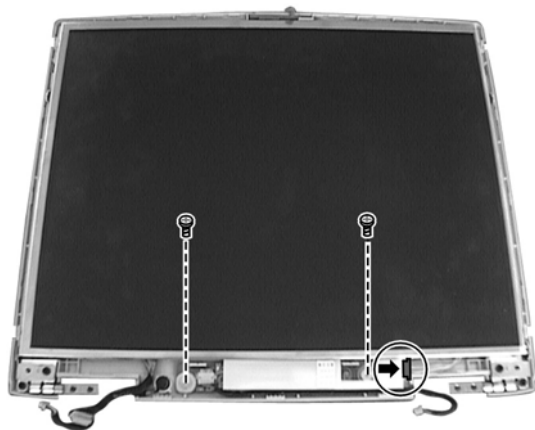

Figure 2-20
2. To remove the inverter board at the bottom side of the LCD assembly, unplug the cable and remove the two screws. (figure 2-20)